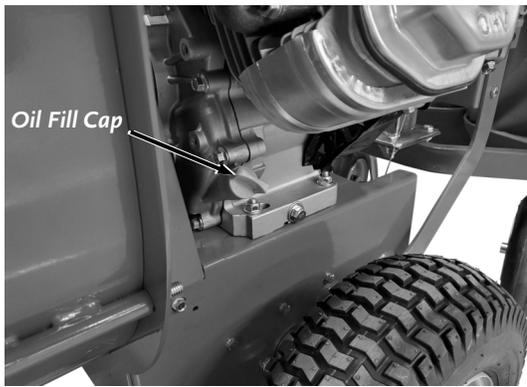
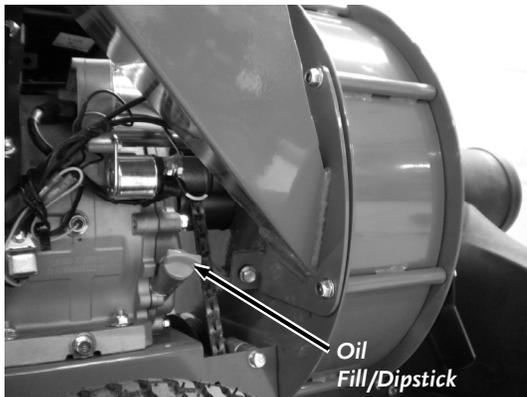

Figure 15
Figure 16
Your PRO DR WALK-BEHIND LAWN VACUUM Engine comes from the factory with two fill points. The left side has an Oil fill Cap (**Figure 15**), and the right side has an Oil Fill/Dipstick (**Figure 16**). Because of the Chipper Hopper the location of the Dipstick is inaccessible. To better accommodate adding and checking your Engines Oil, we recommend swapping the position of the Oil Fill Cap and Oil Fill/Dipstick.
2. Remove the Oil fill Cap (**Figure 15**).
3. Remove the Oil Fill/Dipstick, replace with the Oil Fill Cap (**Figure 16**).